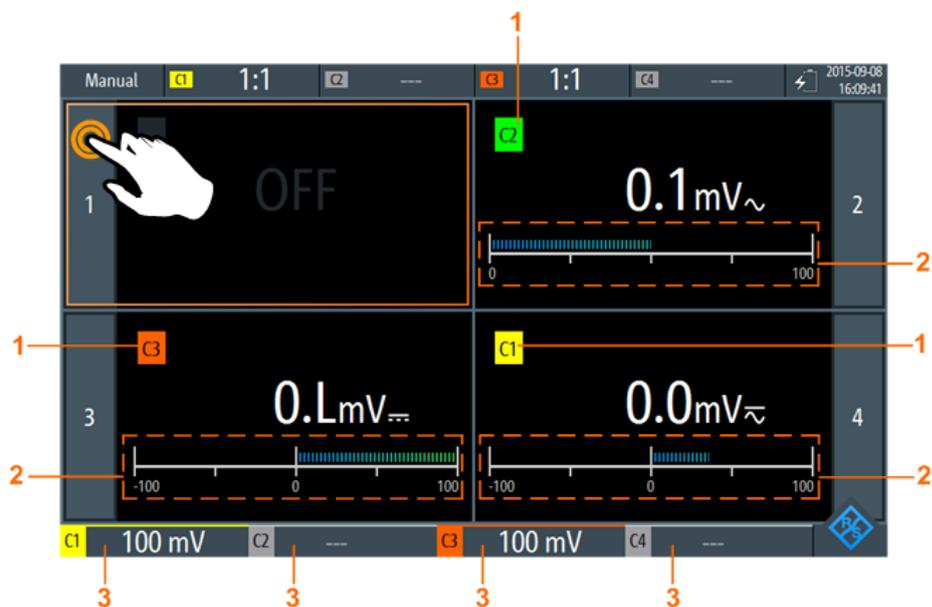

Figure 5-4: Four-voltmeter-view
- Tap the meter number as shown in Figure 5-4.